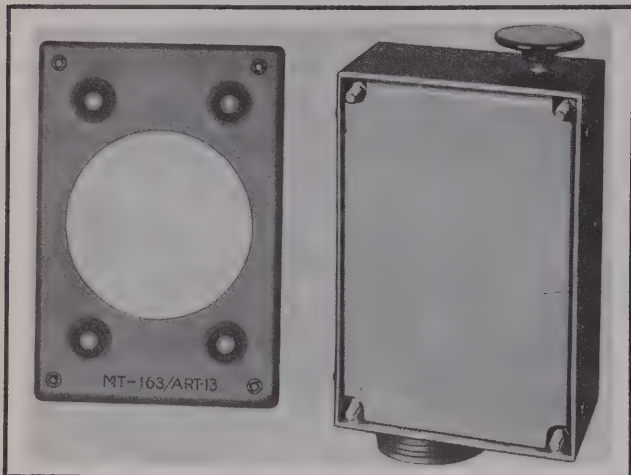

Figure 2-12—Control Unit C-87/ART-13 with Mounting Plate MT-163/ART-13 (Navy Type -23330)
d. REMOTE CONTROL UNIT. (See figure 2-12.) Locate the control unit so that the controls are easily accessible to the operator. Mount it with the key upward leaving sufficient space for operation of the key.